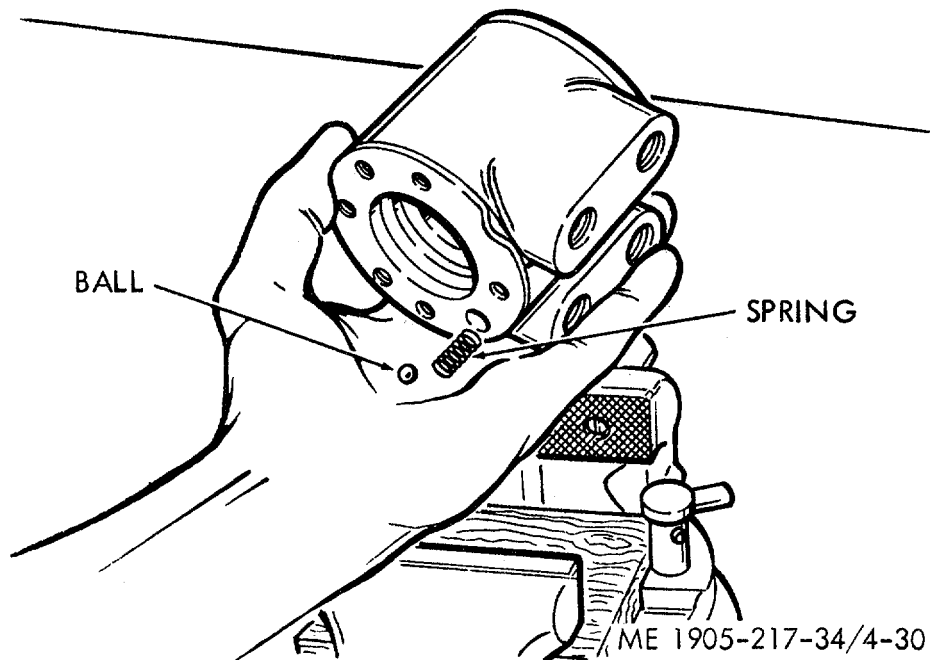

Figure 4-30. Removing check valve seat, ball, and spring.
(10) Place housing in vise, control end up and unscrew check valve seat (10) with 3/16 hex wrench.
(11) Up end the housing (fig. 4-30) and tap slightly with butt of hand. Hold check valve hole toward lowest corner and remove check valve seat, ball, and spring.